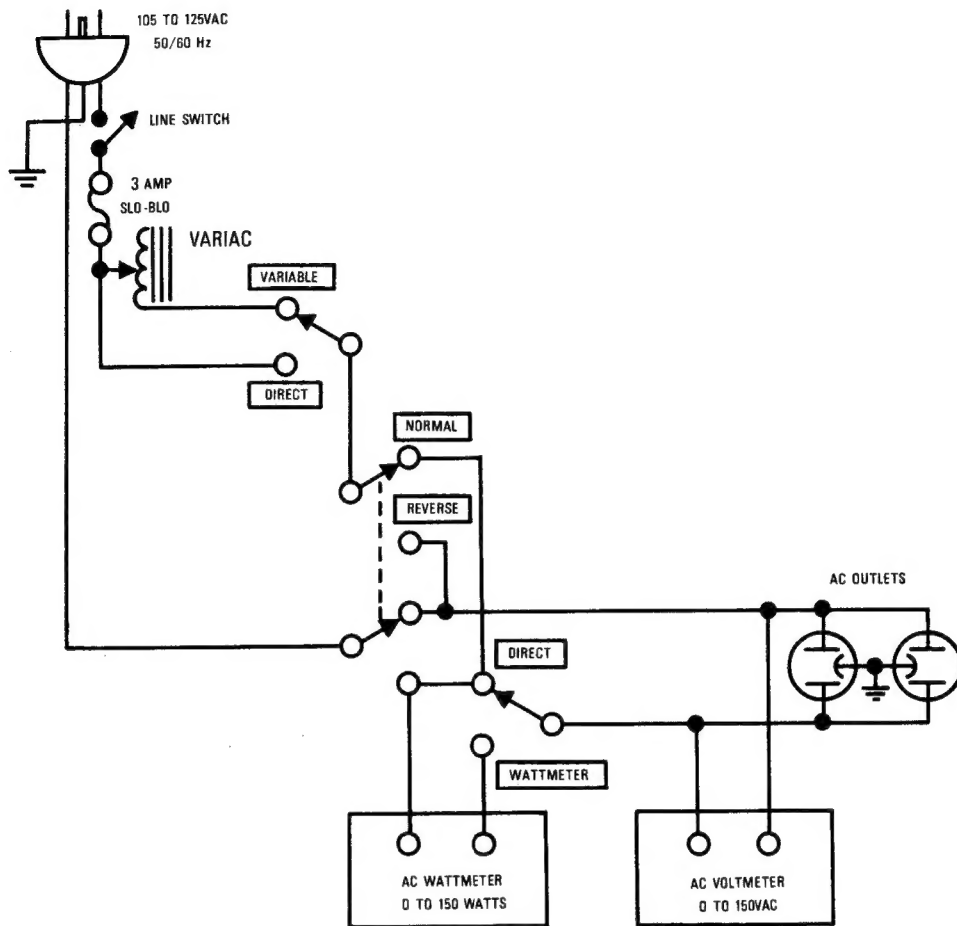
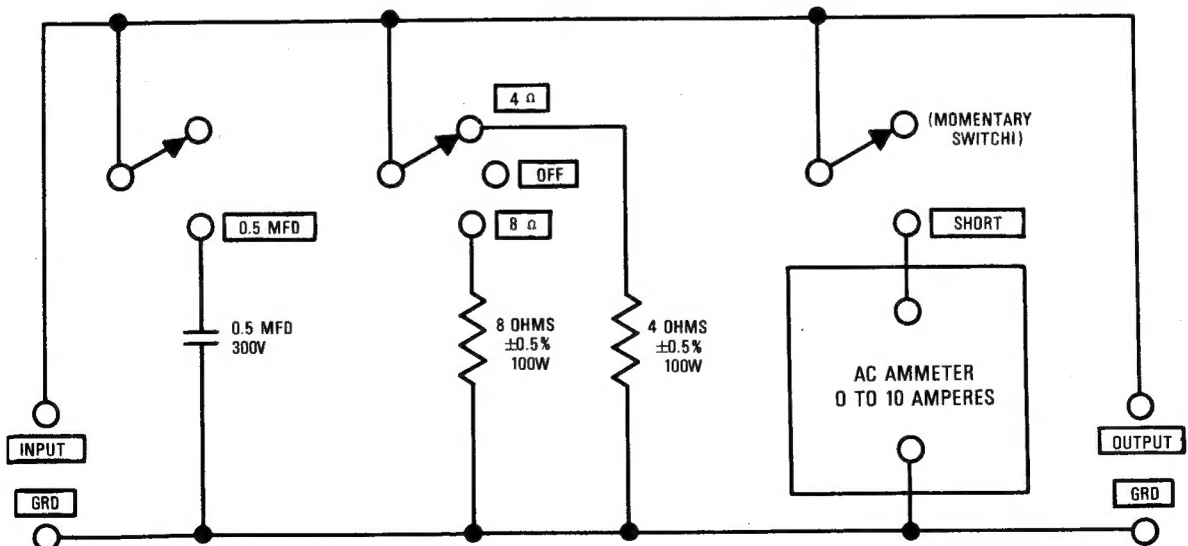

Figure 1. AC Power Control Box Simplified Schematic
Figure 2. Amplifier Output Load Box Simplified Schematic
1. Make the test setup shown in Figure 1 with the instrument controls set in the following positions:
Table 1 lists the test equipment required for servicing the Model 2440 Quadradial 4 Adaptor Amplifier. The wattmeter, ac voltmeter, and variac may be assembled as a test fixture as shown schematically in Figure 1, and the load resistors and ac ammeter may be assembled into a second test fixture as shown in Figure 2.